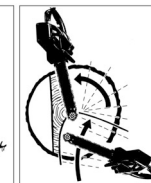

Fig. 10D
- When diameter of wood being cut is greater than the bar length, make 2 cuts as shown (Fig. 10D).